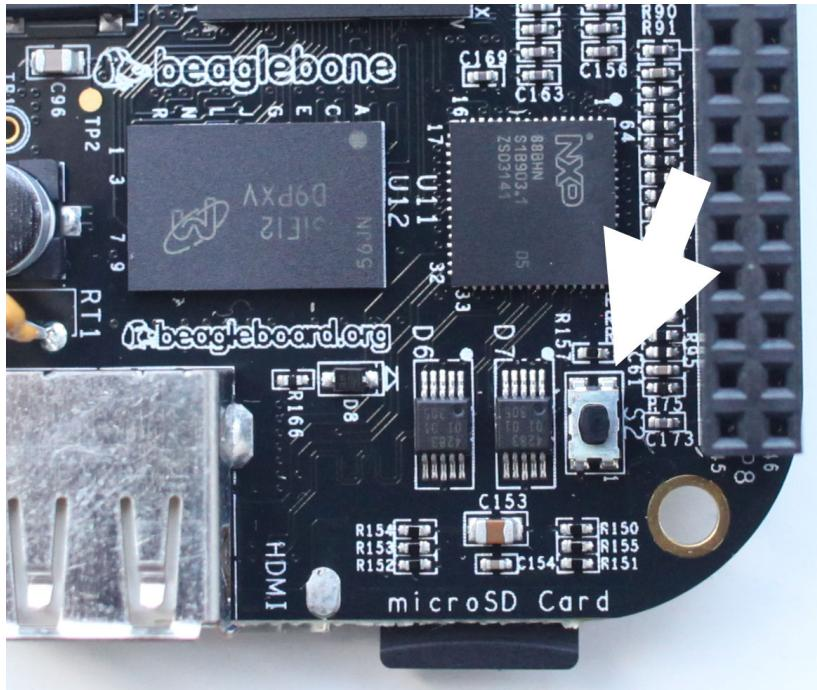

Figure A-1. The boot button on the BeagleBone Black
2. While holding the boot button (Figure A-1), connect the BeagleBone to power and keep holding the boot button for about fifteen seconds.